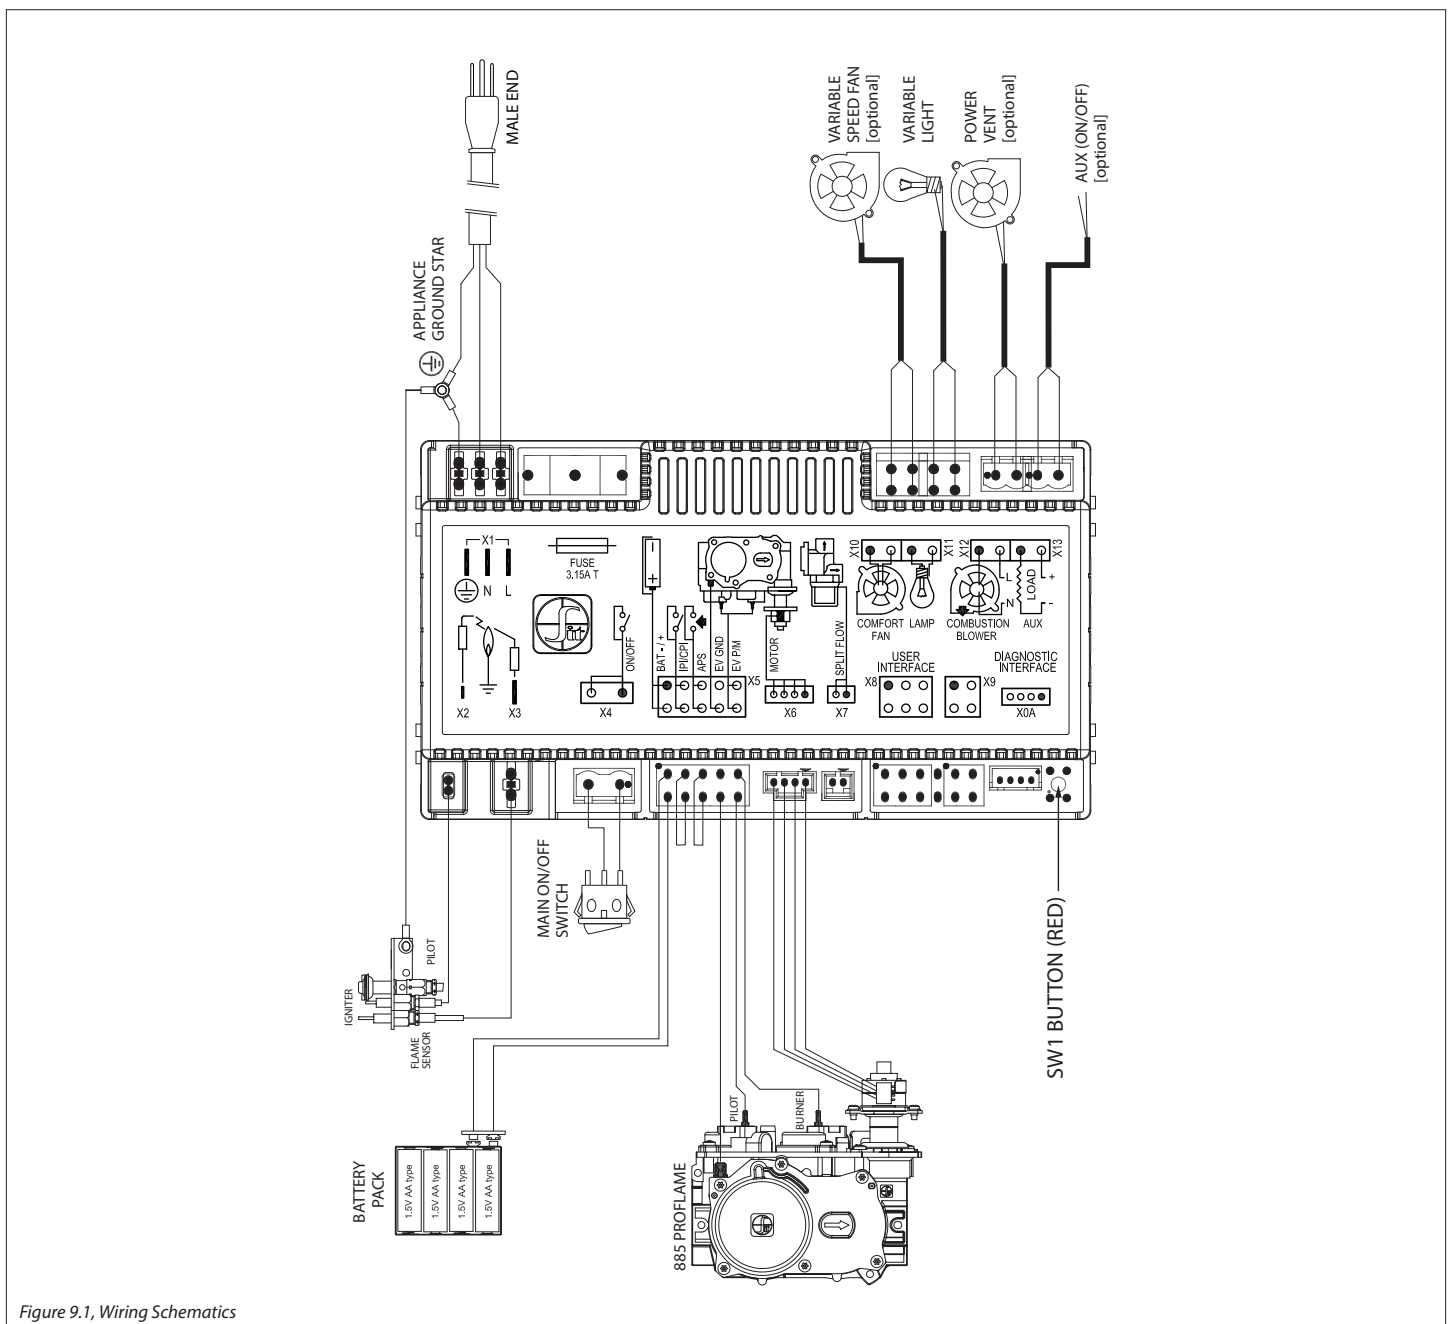

Figure 9.1, Wiring Schematics
9. Plug the fan cord into the receptacle on the IFC control module. See Section Figure 9.1, Wiring Schematics on page 51.